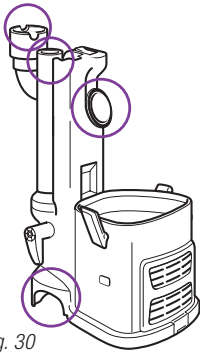

Fig. 30
- Remove the dust cup and extension wand and separate the portable Lift-Away® canister from the motorized floor brush. Look in all 4 openings for any blockages. **(Fig. 30)**